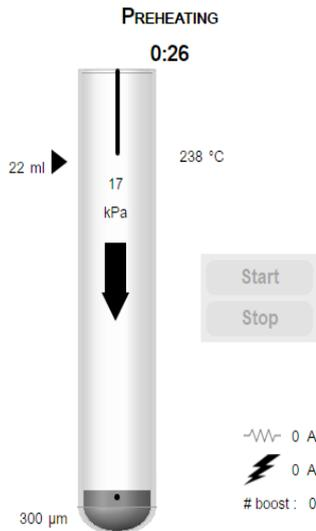
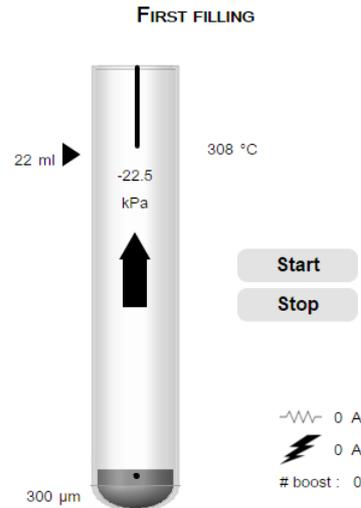

Figure 47: Positions the probe just above melt for preheating period
Figure 49: After probe immersed, sets vacuum in probe to start filling the probe for the first time
- The different phases of the “Before measurement” sequence are progressively shown in Figure 47 to Figure 49.